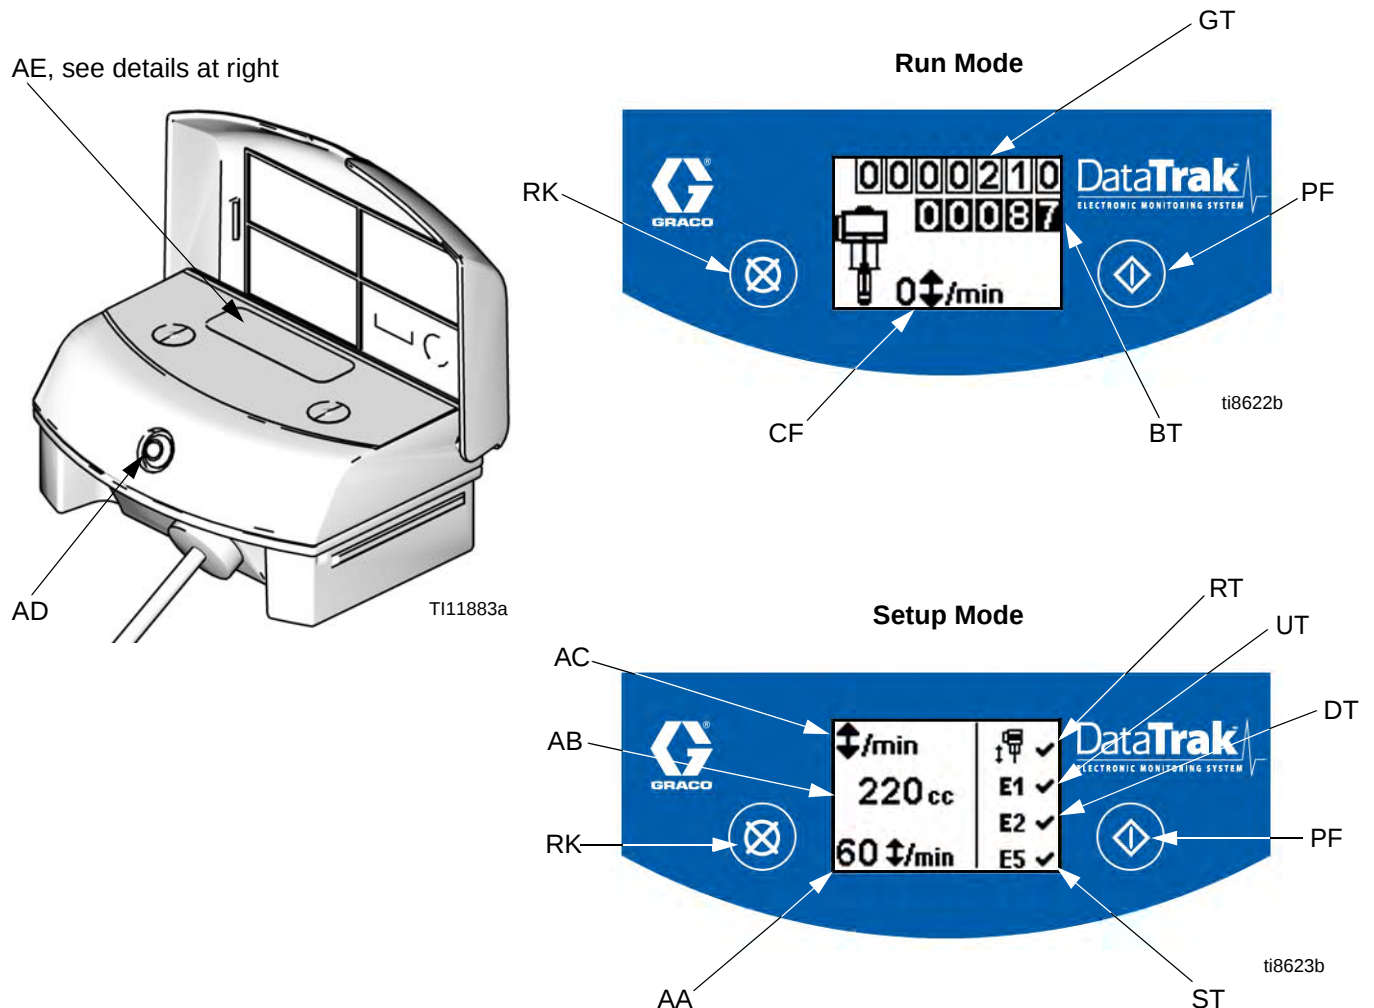

FIG. 7. DataTrak Controls and Indicators
Key for FIG. 7
1. See FIG. 7. Press and hold  for 5 seconds until Setup menu appears.
NOTE: When runaway, E1, E2, and E5 error options are enabled, a  will appear on the setup screen. See FIG. 7.
1. See FIG. 7. If pump runaway occurs, the runaway solenoid will actuate, stopping the pump. The LED (AD) will flash and the display (AE) will indicate a runaway condition (see Table 1). The display will cycle through six instruction screens.
2. Runaway Screens 1 and 2: To reset the runaway solenoid, close the master air valve (E). Wait for air to completely bleed off the air motor.
3. Runaway Screens 3 and 4: After the air is bled off, push the solenoid release button (J) down to reset the air valve. The button will pop back up when the air valve is repressurized.
5. Open master air valve (E) to restart pump.
NOTE: To disable runaway monitoring, go to setup mode and set runaway value to 0 (zero) or toggle (RT) off  (see FIG. 7).
1. See FIG. 7. To enter Prime/Flush mode, press any key to wake up the display, then press . The Prime/Flush symbol will appear in the display and
See FIG. 7. The last digit of the batch totalizer (BT) represents tenths of gallons or liters. To reset the totalizer, press any key to wake up the display, then press and hold  for 3 seconds.
See FIG. 7. The display (AE) will turn off after 1 minute of inactivity in Run mode or 3 minutes in Setup mode. Press any key to wake up the display.
DataTrak can diagnose several problems with the pump. When the monitor detects a problem, the LED (AD, FIG. 7) will flash and a diagnostic code will appear on the display. See Table 1.